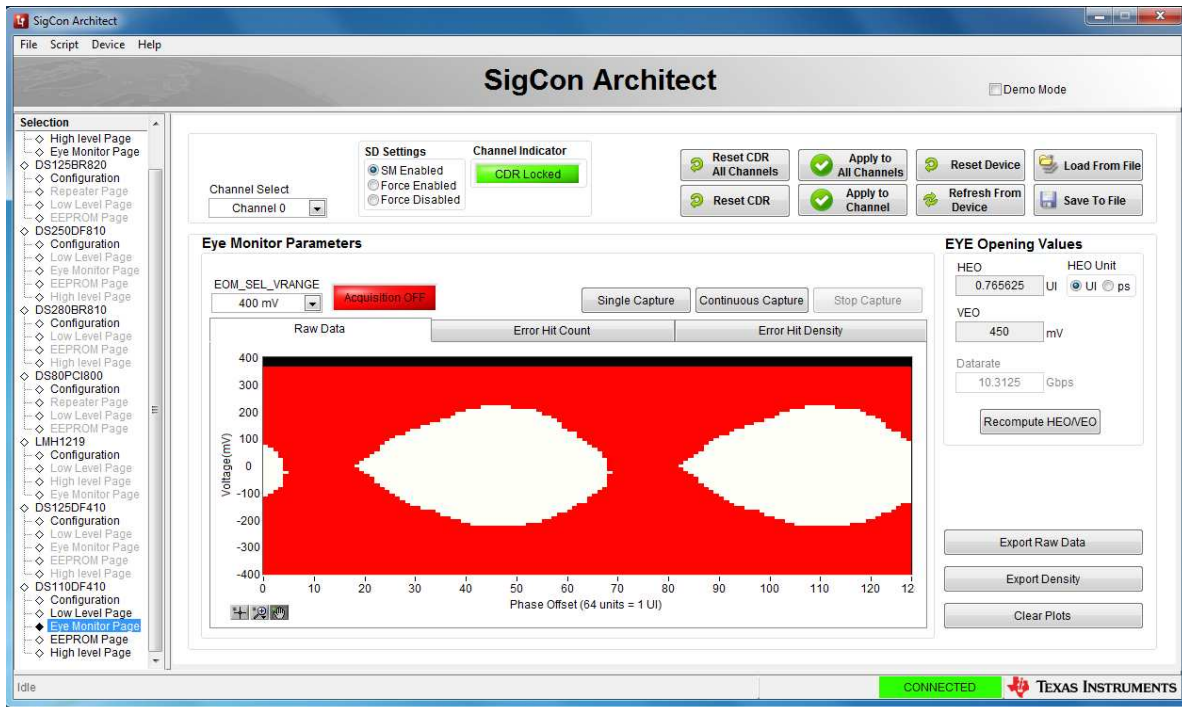

Figure 11. SigCon Architect Eye Monitor Page: Raw Data Tab
The Eye Monitor Page settings and display is described in greater detail below. Reference Figure 11.
- **Raw Data Tab:** This data shows the Eye Diagram's raw data. Reference Figure 11.